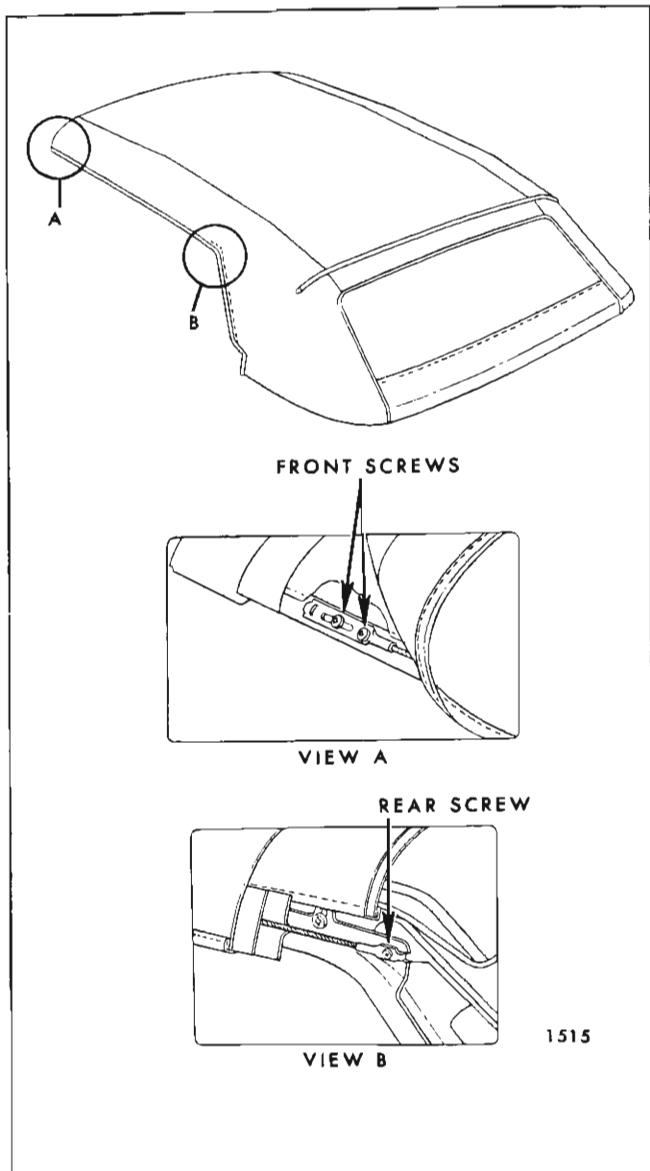

Fig. 1-I-2—Hold-Down Cable Attachment
17. At each rear quarter area remove attaching bolts securing rear quarter trim stick assembly to rear quarter inner panel (Fig. 1I5).